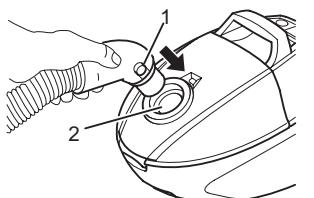

Fig.2
1. Push the end of the suction hose (Fig. 2/1) into the receiver opening (Fig. 2/2) on the cylinder vacuum cleaner until the lock clicks into place audibly and noticeably.